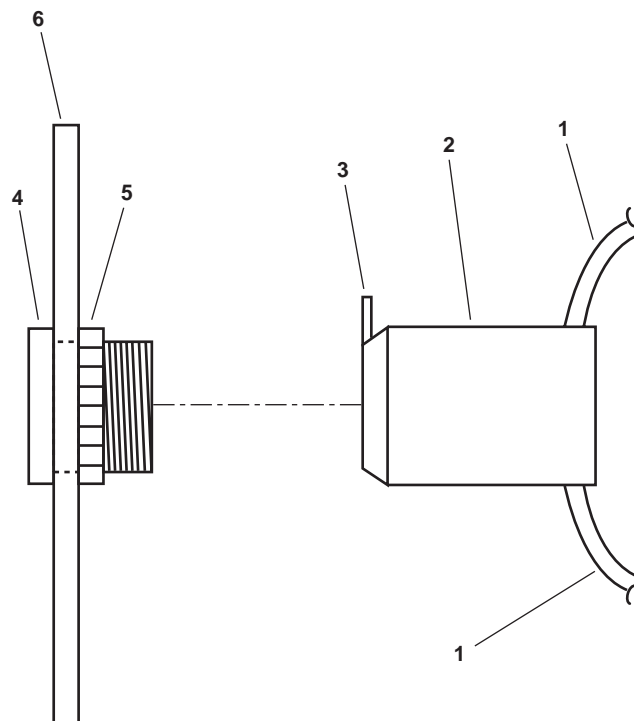

Figure 5. Double Pushbutton Switch
2. Label and disconnect the wiring (figure 5, item 1) from the contactor (figure 5, item 2).
3. Lift the locking tab (figure 5, item 3) slightly and pull the contactor (figure 5, item 2) off the double pushbutton switch (figure 5, item 4).
4. Remove the retaining nut (figure 5, item 5) that secures the double pushbutton switch (figure 5, item 4) to the door (figure 5, item 6) and remove the pushbutton switch.
1. Install the double pushbutton switch (figure 5, item 4) in the door (figure 5, item 6) and secure it with the retaining nut (figure 5, item 5).
2. Snap the contactor (figure 5, item 2) into place on the double pushbutton switch (figure 5, item 4) with the locking tab (figure 5, item 3) facing upward.
3. Connect the wiring (figure 5, item 1) to the contactor (figure 5, item 2) using the labels from step 2 of Removal as a guide. Remove the labels.